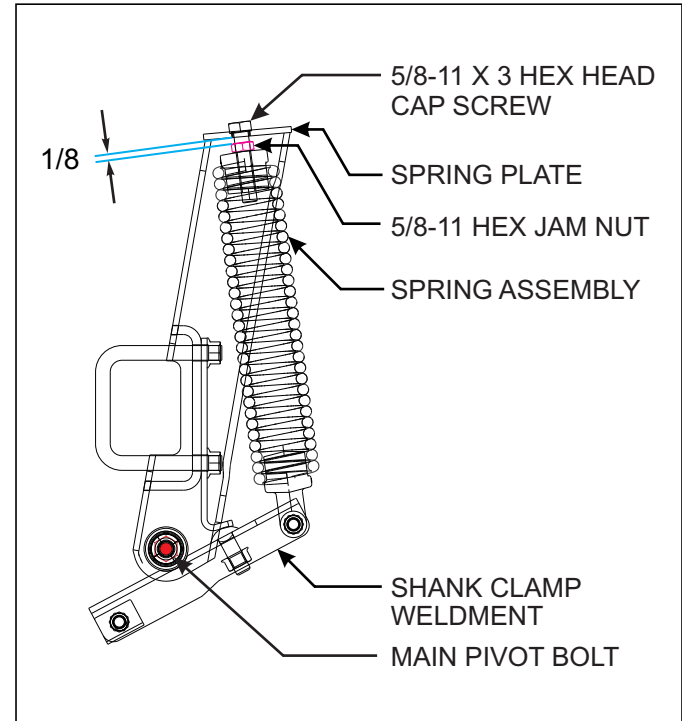

Figure 4-18: Spring Adjustment
3. When adjusting or assembling the spring assembly, tighten the upper spring bolt, but leave approximately 1/8" gap above the spring jam nut (**See Figure 4-18.**) This will leave the proper clearance for the spring to pivot. Lock the jam nut against the top of the spring, not the top of the mount. Likewise, do not over tighten the lower spring cross bolt. Remove any slack in the bolt, but still allow the lower spring to pivot freely